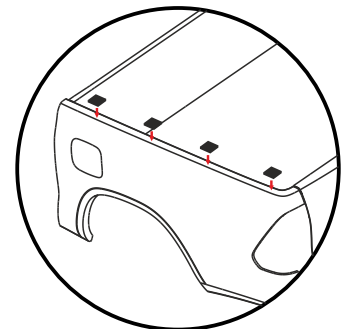

**FIGURE 3**
3. ONCE THE SMARTCAP IS CENTERED, PLACE CLAMPS IN POSITION. (SEE FIGURE 3)